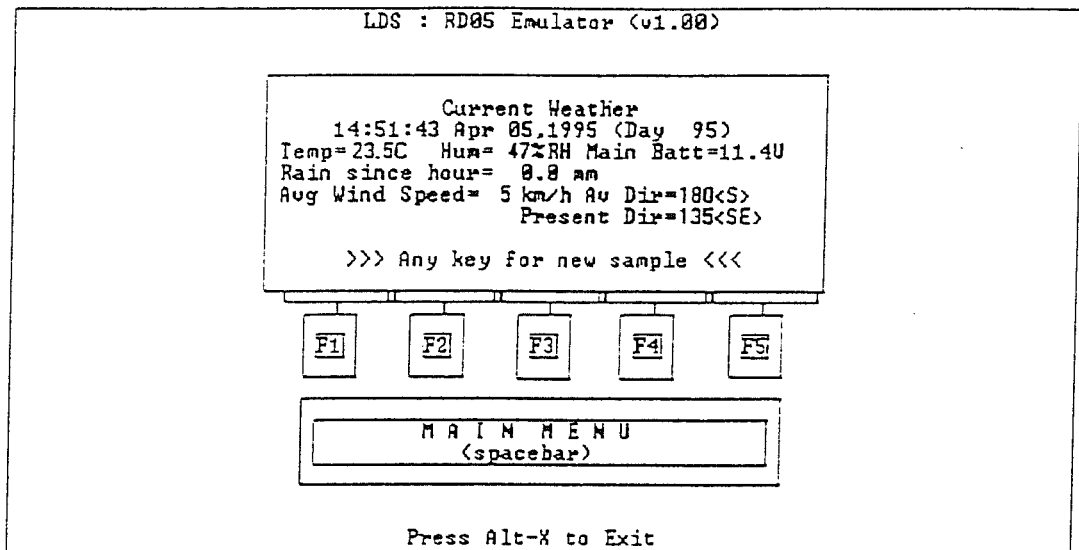

Figure 7-4
6. Press the F1 key. You will be presented with a summary of the weather conditions at the present time. An example can be seen in Figure 7-4 on the next page. Note that the bottom line of the display now says "Any key for new sample". This refers to all the Function keys on your keyboard. To get back to the Main Menu, just press the Spacebar again. Most of the screens are set up in this way, with instructions above each key as to your available options at that time. For example, the Hourly Data screen says "Ahead 1 Back 1 Ahead 24 Back 24 Exit" above the keys. What this means is that the F1 key will move you ahead one record (normally one hour if the data logger has
1. From the Main Menu, select option "A: Current Weather" by Pressing the F1 Function key on your keyboard. You will be presented with the current weather information (Figure 7-4, on previous page).